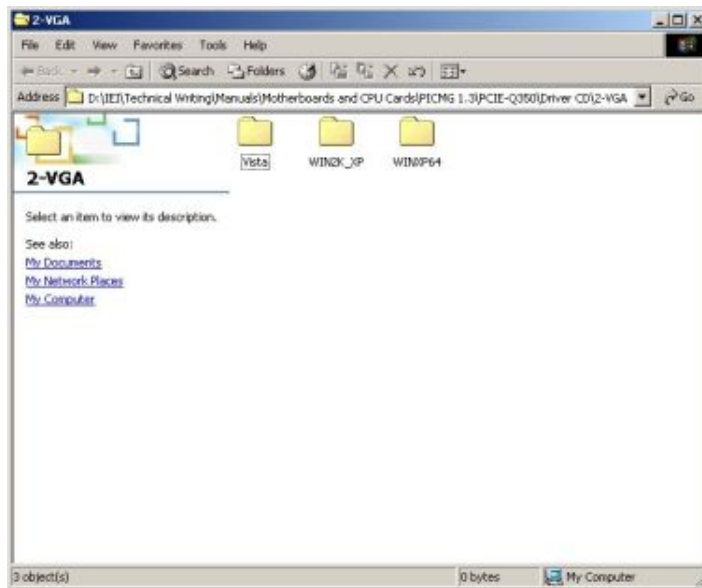

Figure 7-10: Select the Operating System
Step 2: A new window opens. See **Figure 7-10**.
Step 3: Select the operating system from those shown in **Figure 7-10**.